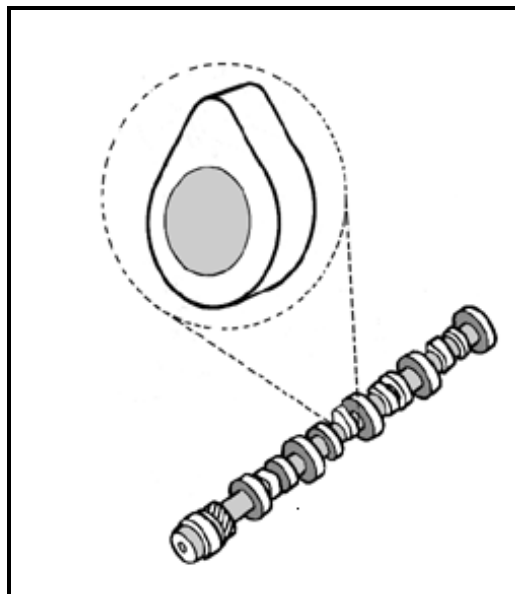

FIGURE 1.6
1.17 Identify the mechanism in FIGURE 1.6 below.